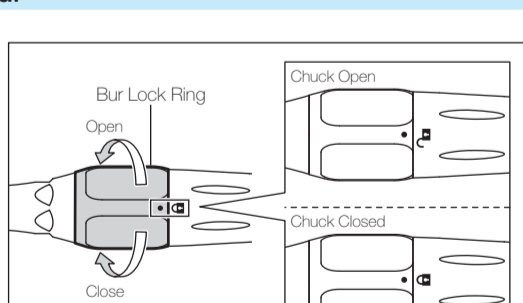

Fig. 2
- 1) Turn the Bur Lock Ring in the direction of the "⌚" mark until it clicks. (Fig. 2)
- 2) Turn the Bur Lock Ring to the OPEN position. (Fig. 2)